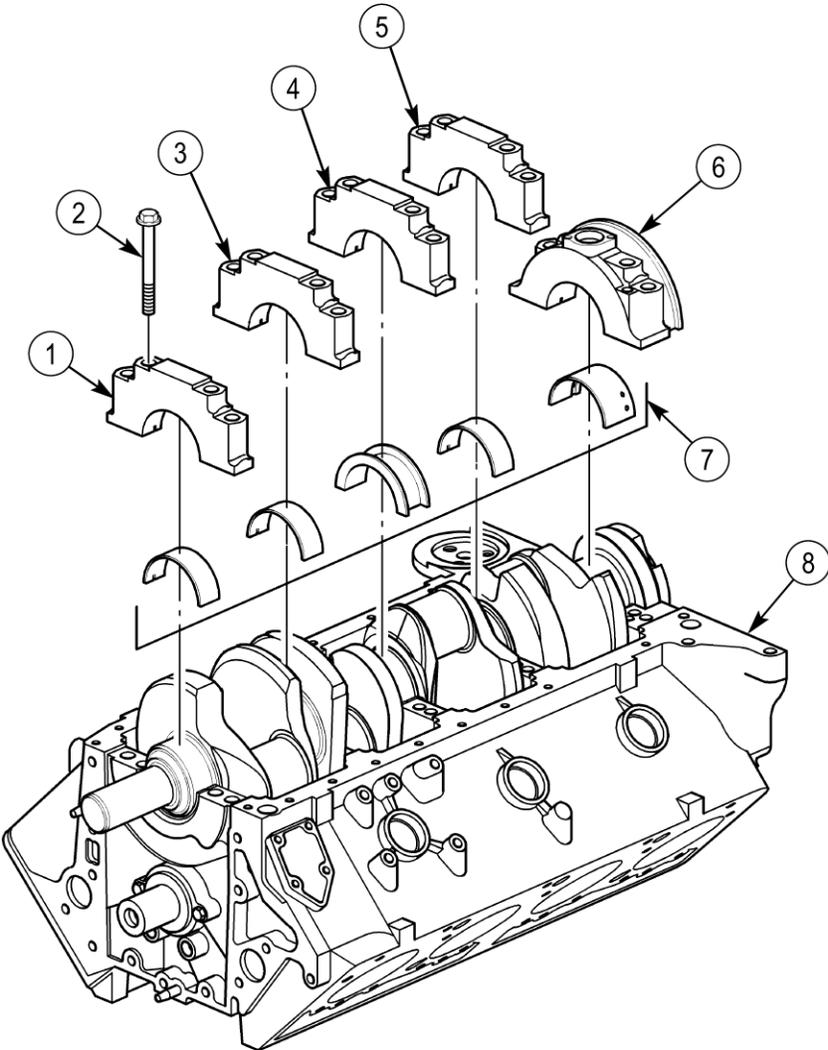

Figure 2
2. Install lower halves of main bearings (7) in bearing caps one through five (1), (3), (4), (5), and (6) as shown in figure 2.
4. Install bearing caps one (1), two (3), four (5), and five (6) on cylinder block (8) as shown in figure 2.
5. Apply OE/HDO to threads of eight 12 mm capscrews (2) and install 12 mm capscrews (2) at inner positions on bearing caps one (1), two (3), four (5), and five (6) as shown in figure 2. Tighten eight 12 mm capscrews (2) to 55 lb-ft (75 N•m).
6. Install bearing cap three (4) on cylinder block (8) with two 12 mm capscrews (2) at inner position as shown in figure 2. Tighten 12 mm capscrews (2) to 10 lb-ft (14 N•m).